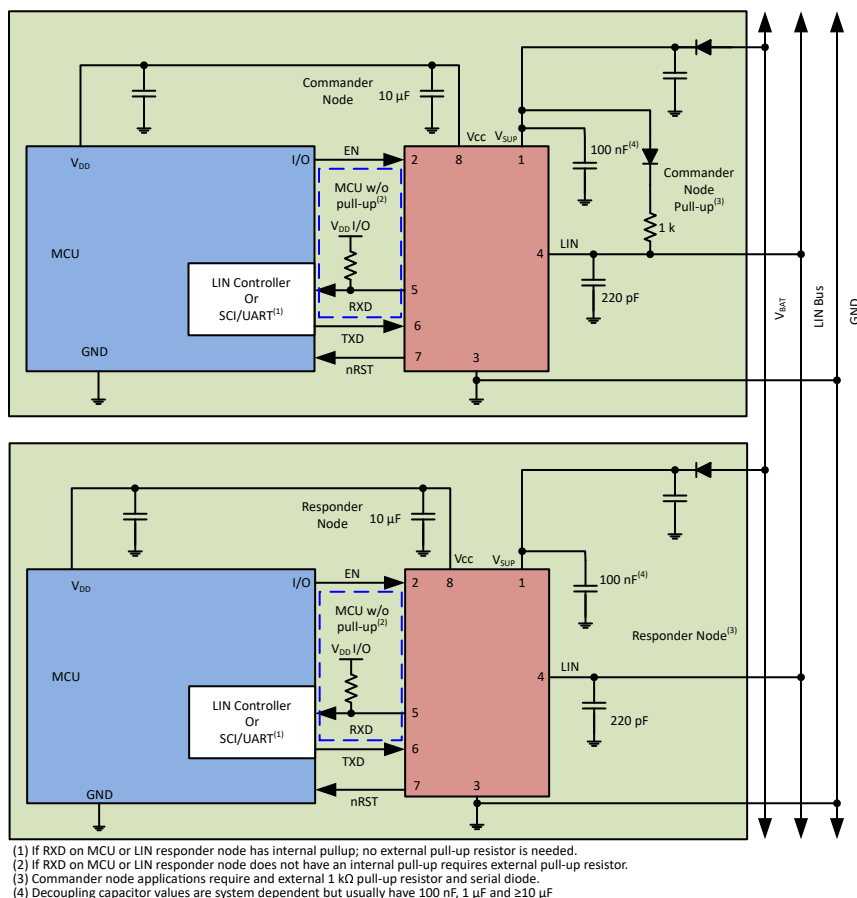

Figure 10-1. Typical LIN Bus
The device comes with an integrated 45 k Ω pull-up resistor and series diode for responder node applications. For commander node applications, an external 1 k Ω pull-up resistor with series blocking diode can be used. Figure 10-1 shows the device being used in both commander and responder node applications.
- **Pin 2 (EN):** EN is an input pin that is used to place the device in a low power sleep mode. If this feature is not used, the pin should be pulled high to the regulated voltage supply of the microprocessor through a series resistor, values between 1 k Ω and 10 k Ω . Additionally, a series resistor may be placed on the pin to limit current on the digital lines in the event of an over-voltage fault.
- **Pin 4 (LIN):** This pin connects to the LIN bus. For responder node applications, a 220 pF capacitor to ground is implemented. For commander node applications, an additional series resistor and blocking diode should be placed between the LIN pin and the V_{SUP} pin. See Figure 10-1